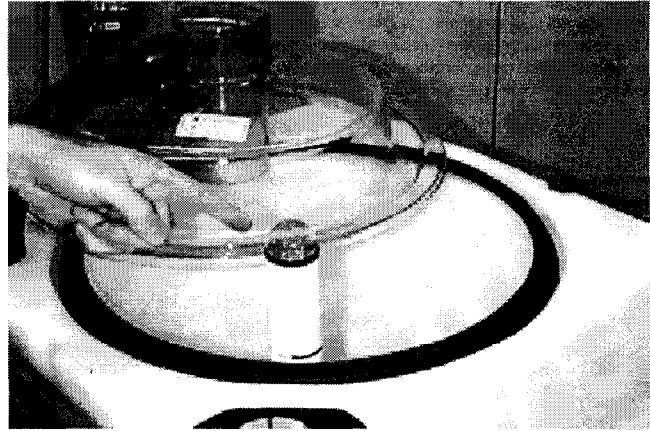

FIG. 33.
2. Remove ball screen from standpipe. (Figure 33)